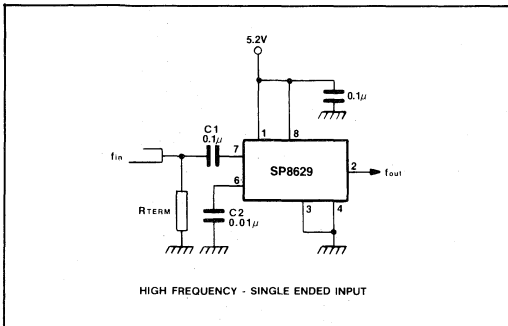

Fig.6 High frequency, single-ended input
- The signal source is usually capacitively coupled to the input as shown in Fig. 6. In the single-ended mode a capacitor of  $0.01\mu F$  (C2) should be connected between the unused input and the ground plane to provide a good high frequency bypass. The capacitor should be increased at lower frequencies. If the input is likely to be interrupted, it may be desirable to connect a 100k resistor between an input and ground.